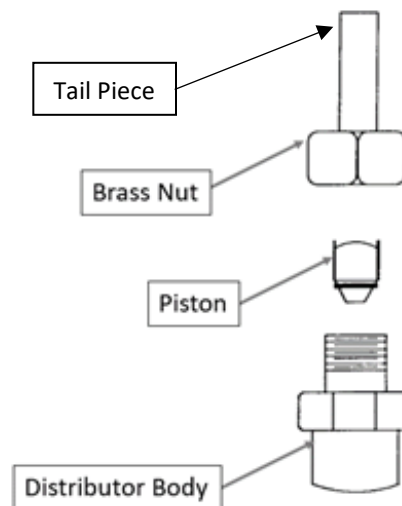

Figure 4 Piston Removal
- 2) Remove piston/orifice from inside of distributor body and discard. See figure 4.